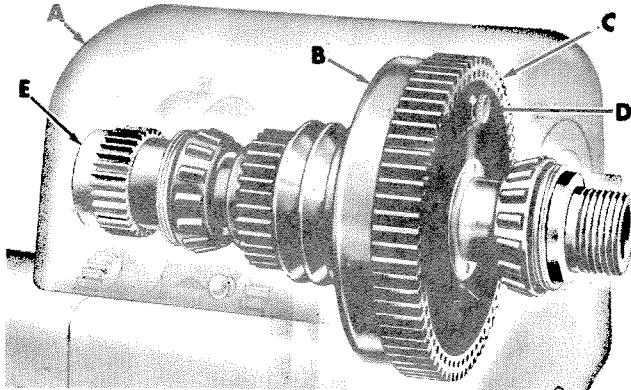

Figure 18
3. Raise headstock cover (A, Fig. 18) and pull out lock pin (D) disengaging bull gear (C) from pulley (B).
5. Loosen set screw in bearing adjusting nut (E) and tighten nut until spindle end play has been eliminated.
6. Give bull gear (C) a sharp spin with your hand -- bull gear should rotate about a half turn. If it doesn't, adjust nut (E) and recheck.